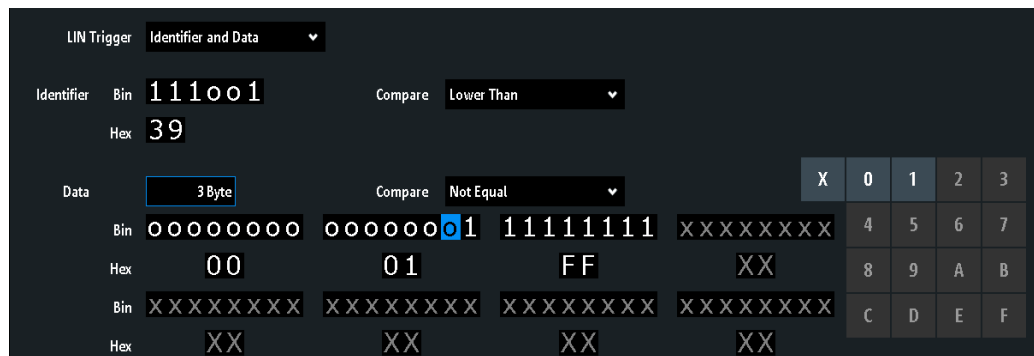

Figure 12-32: Trigger setup to trigger on identifier and data patterns
- "Identifier and Data" Triggers on a combination of identifier and data condition. The instrument triggers at the end of the last byte of the specified data pattern. An example is shown in Figure 12-32. See "Identifier condition" on page 274 and "Data condition" on page 275.